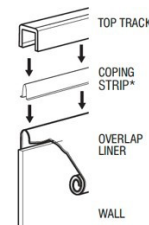

FIGURE 2
8. **For J-Hook Liner Installation (see Figure 2)** – Simply hang the liner directly on the top of the pool wall using the integrated J-Hook design. This style liner does not require any additional parts to install (not for use with bead receiver track). Start by hanging the liner in place on to the pool wall at four locations, 12, 3, 6 and 9 o'clock. Similarly, for a rectangular liner you would position the corners first at midway points between each corner.